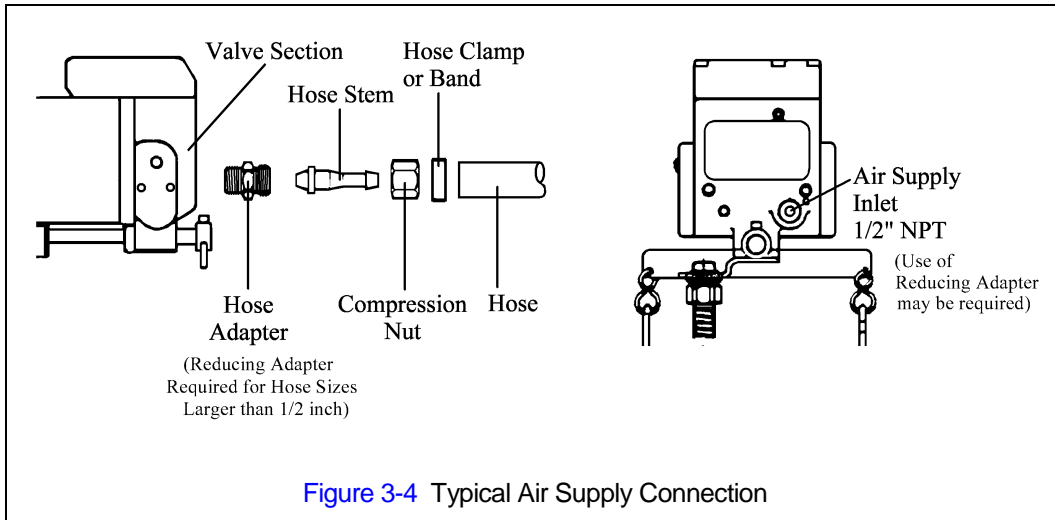

Figure 3-4 Typical Air Supply Connection
3.8.5 Make connections to air supply; reference Figure 3-4. Use a reducing adapter at the hoist valve section for hose sizes larger than 1/2 inch.